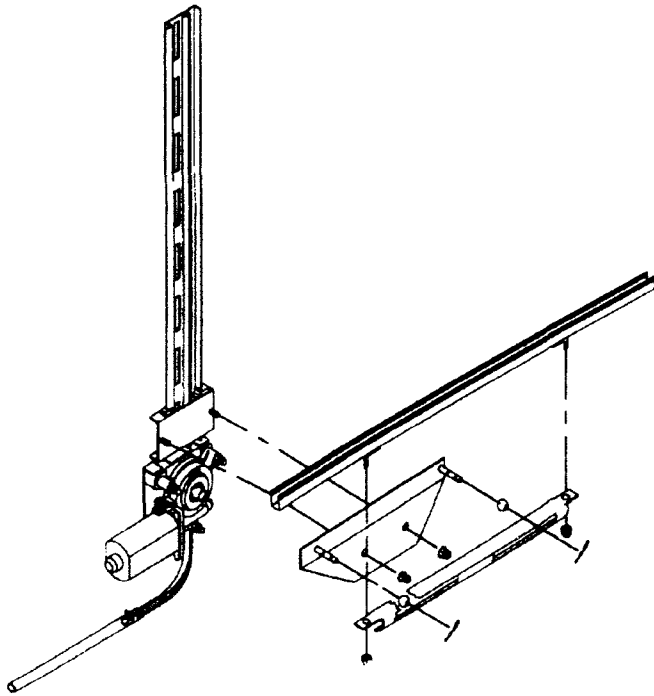

Fig 8
9. Before installing regulator assembly, using a light to medium lithium grease, lubricate all pivot points, rollers, and slide channels. Attach lift bar and slotted tube to the regulator. See (Fig 8). Mount assembly in the door and bolt to the mounting brackets. Mount glass to the lift assembly. On cabriolets and convertibles you may need to drill a hole in shoulder pin closer to the tube for the hairpin. This gives the glass less movement. If the pin has an inboard groove use it. All others should use outer groove for hairpin.